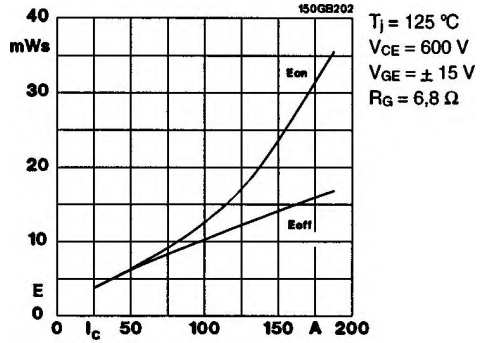

Fig. 2 Turn-on /-off energy = $f(I_c)$
5) See fig. 2 + 3; $R_{Goff} = 6,8\ \Omega$